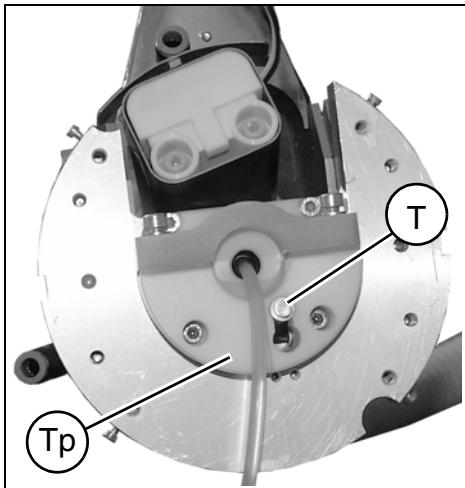
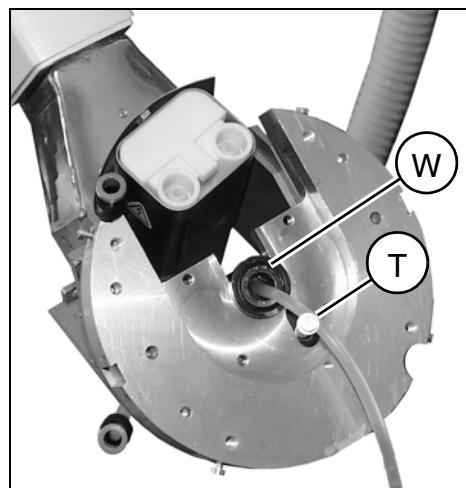

Fig. 18
Fig. 20
- Push the temperature sensor slightly forward (T/Fig. 18) in the shock wave head support and then push it back to the side.
- Remove the white teflon plate (Tp/Fig. 18) by removing the screws.
- Now pull the water supply (W/Fig. 20) in the shock wave head somewhat forward and then push it back to the side.
- Place the water supply (W/Fig. 20) in the shock wave head in the same manner it was done during deinstallation.
- Reattach the white teflon plate (Tp/Fig. 18).
- Place the temperature sensor (T/Fig. 18) with the spiral spring from the back in the shock wave head in the same manner it was done during deinstallation; ensure that the spiral force of the spring pushes the temperature sensor to the front (Fig. 18).
- Pull the temperature sensor (T/Fig. 18) in the shock wave head support somewhat forward and then push it back through to the side.
- Push the high-voltage connector (W/Fig. 20) slightly to the side for better access to the water supply (Fig. 20).
- Now pull the water supply (W/Fig. 20) with the center air suction hose slightly forward in the shock wave head support and then push it back through to the side.
- Install the water supply (W/Fig. 20) in the shock wave head support, following the same procedure as for removal.
- Reinstall the white teflon plate (Tp/Fig. 18).
- Install the temperature sensor (T/Fig.20) with the spiral spring in the shock wave head support following the same procedure as for removal in the reverse order; when doing this, make sure that the spring force of the spiral spring is pushing forward against the temperature sensor (Fig. 18).